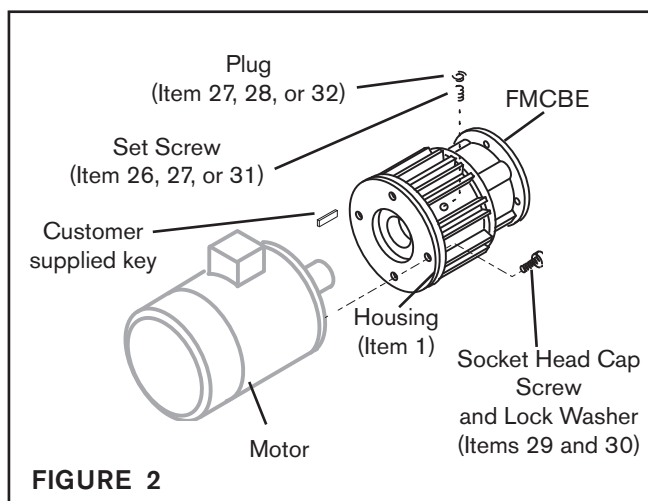

FIGURE 2
2. Insert the customer supplied key into the motor shaft keyway (See Figure 2).
3. Slide the FMCBE onto the motor shaft (See Figure 2).
4. On Model 625, secure the FMCBE to the motor using Socket Head Cap Screws (Item 29) and Lock Washers (Item 30) and tighten them to the recommended torque (See Figure 2 and Table 1).
5. Align the hole in the FMCBE Housing (Item 1) with the tapped hole in the Drive Disc (See Figure 2).
6. Insert and tighten the Set Screw; then, install the Plug (See Figure 2).
7. On Model 625, secure the FMCBE to the motor using Socket Head Cap Screws (Item 29) and Lock Washers (Item 30) and tighten them to the recommended torque (See Figure 2 and Table 1).